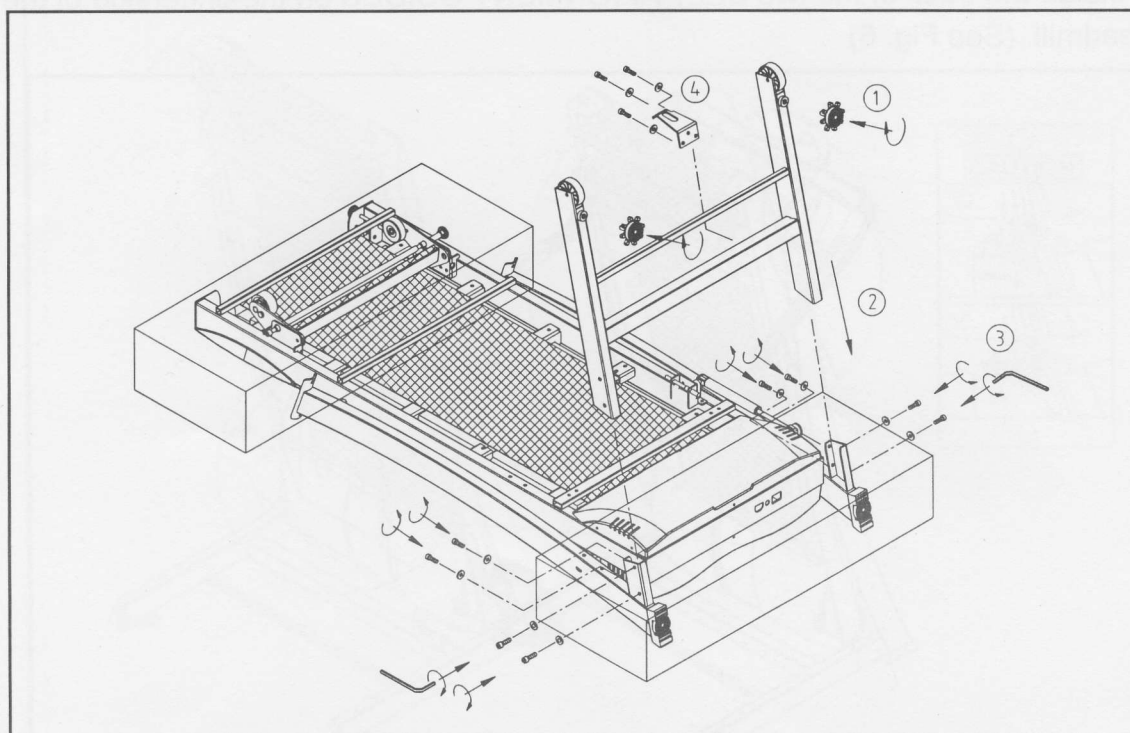

Fig.8
2. Rotating floor level adjustment clockwise to secure. Insert assembled bottom post bracket into proper position of treadmill. Then, attach bolts and washers provided to position without fully tighten. Securely install mounting brace to bottom post bracket as shown. (See Fig.8)